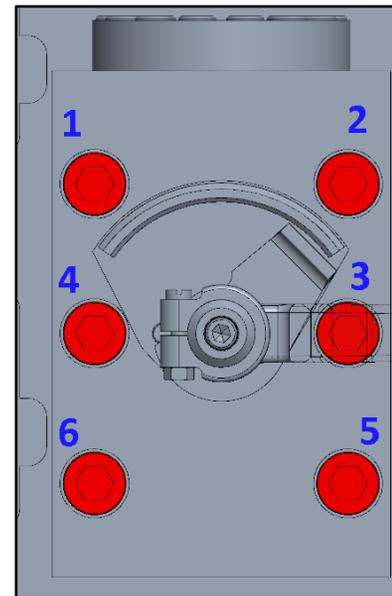

Figure 3-11. Isolation Valve Tightening Sequence
8. Torque screws to 63-77 LBFT (85-104 Nm) using $\frac{1}{2}$ in hex key torque wrench. Follow the order of tightening shown in the picture (Figure 3-11).